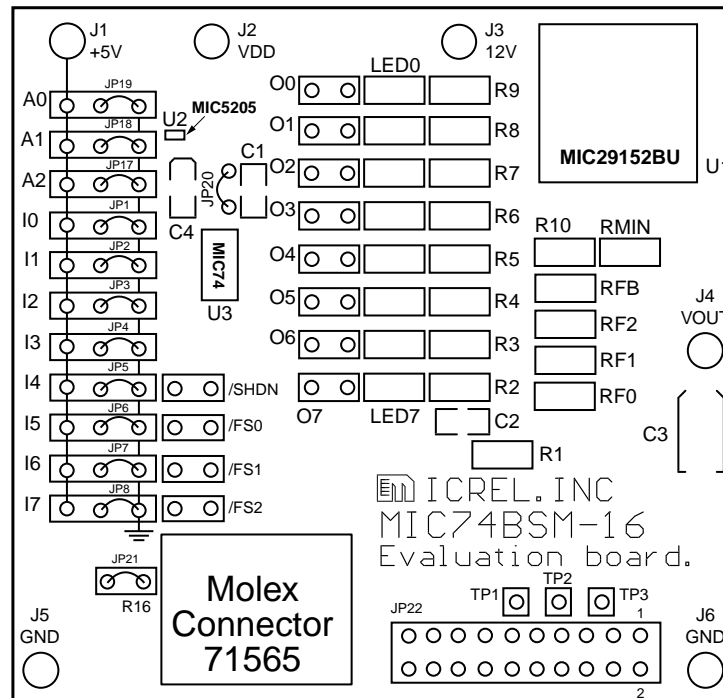

Figure 2. Input Configuration
1. Verify that jumpers JP1 - JP8 are adjusted so that all MIC74 inputs will be grounded. See Figure 2.